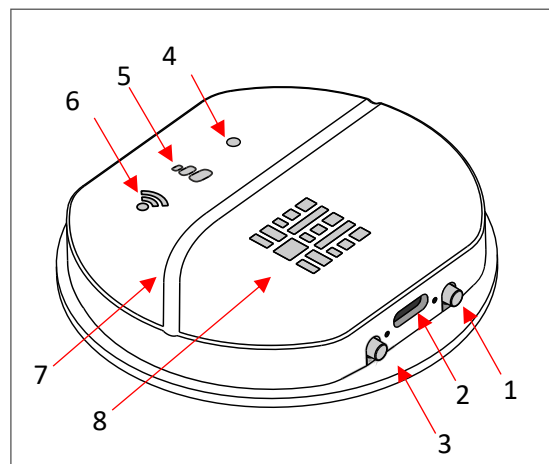

Figure 2
The base of the VITALITY CHECK is shown in **(Figure 2)**. The base consists of an On/Off button (1), a connectivity button (3), the USB-C socket (2), the sensor area (8) and several indicators (4, 5, 6).
- On/Off button (1): power on when pressing, hold pressed to force power off.
- USB-C socket (2) to charge the scanner.
- Connectivity button (3): hold pressed to enter initialization mode. More details see chapter 10.1
- The status indicator (4): multicolor LED. Please see chapter 12 for details.
- Progress indicator (5): To indicate the progress of the measurement the progress indicator (6) consists of three symbols and lights up in green while measuring. The three symbols will switch on one after the other until all symbols lit. When the measurement is finished the light will be switched off. More details please see chapter 12.
- The WIFI indicator (6) light up in green and shows the device connectivity status. More details please see chapter 12.
- Groove (7) to align the hand when measuring.
- When measuring the LEDs of the Sensor area (9) will switched on one after the other